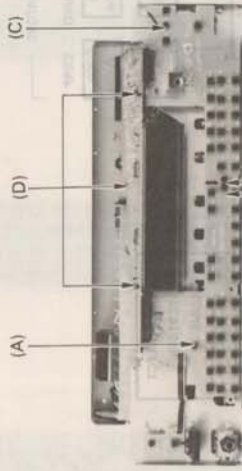

Fig. 1
2. Remove four plastic rivets (A)-(C) securing the front switch PCBs. (Fig.1)
2. Remove three plastic rivets (D) securing the LCD PCB. (Fig.1 and Fig.3)